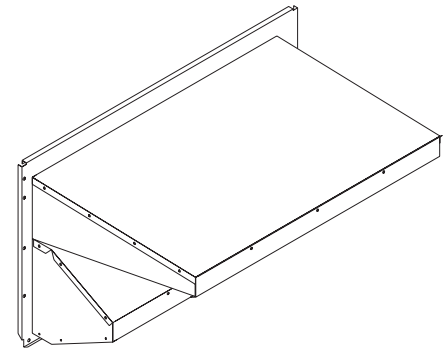

Fig. 29 — Completed Hood Assembly
5. Slide the outdoor-air inlet screens into the screen track on the hood side panels. While holding the screens in place, fasten the screen retainer to the hood using the screws provided. Repeat the process for the barometric exhaust air screen. *Do not attach completed (Fig. 29) hood assembly to unit at this time.*